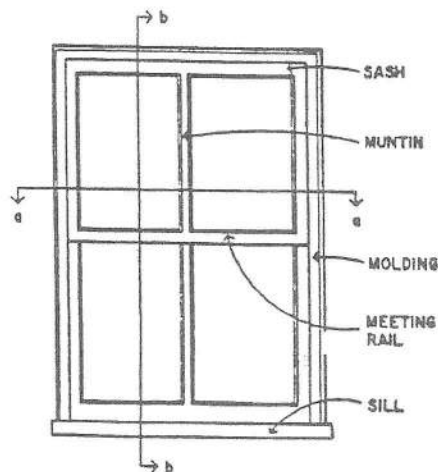

Figure 1
3. **Drawings or measured photos** illustrating dimensions and profile of components of all types of existing windows, including the head, jamb, sill, and muntins (see figure 1).**